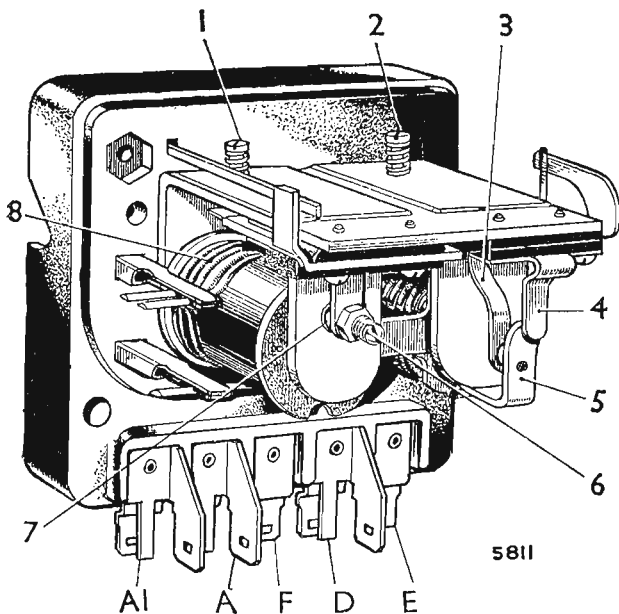

Fig. N.7
If operation of the cut-out takes place outside these limits it will be necessary to adjust. To do this, turn the cut-out adjusting screw (2) (Fig. N.7) in a clockwise direction to raise the voltage setting or in an anti-clockwise direction to reduce the setting. Turn the screw a fraction at a time. Test after each adjustment by increasing the engine speed and noting the voltmeter readings at the instant of contact closure. Electrical settings of the cut-out, like the regulator, must be made as quickly as possible because of temperature rise effects.